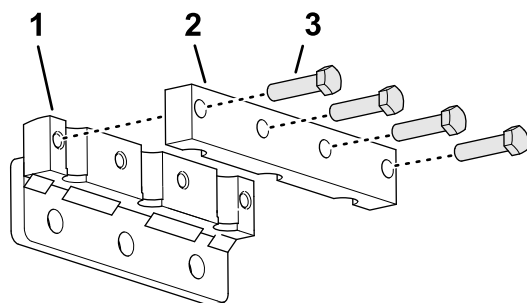

Figure 40
1. Loosely assemble the tine clamp to the tine holder (Figure 40) with 4 bolts (3/8 x 1-1/2 inches). Do not tighten the bolts.